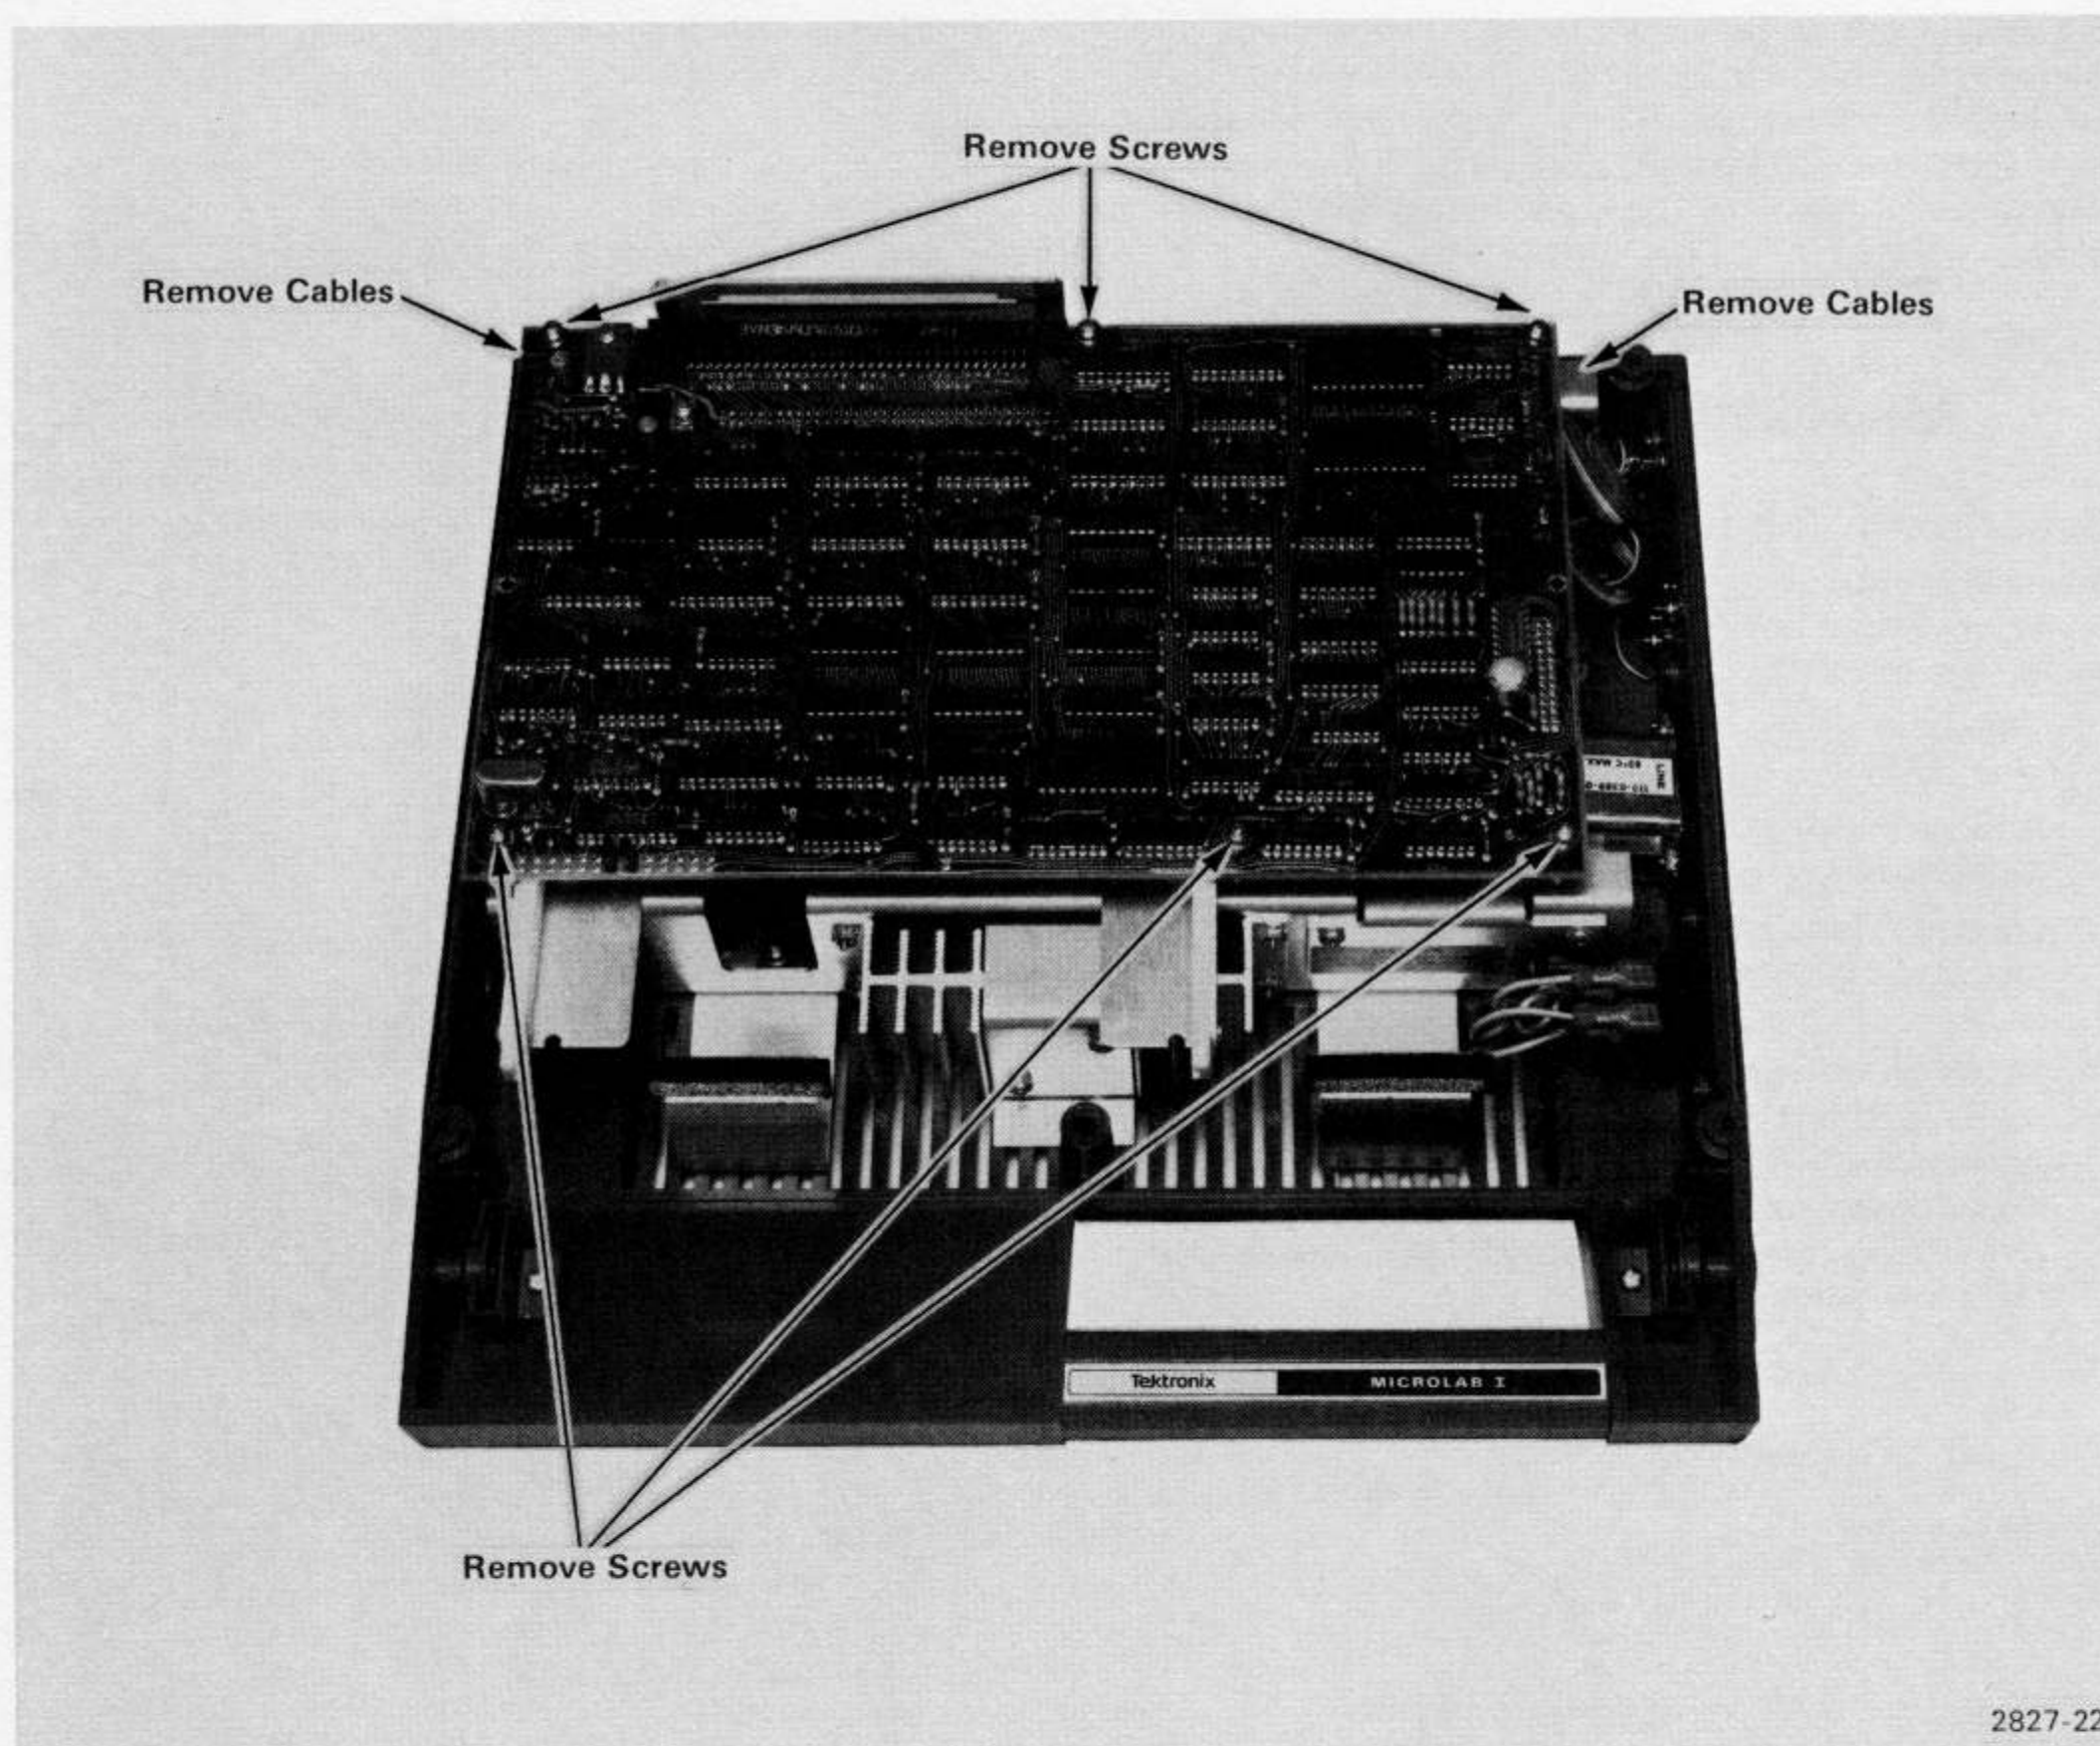

Fig. 6-2. Main Interconnect Board Cable Locations.
1. Remove the cables connected to the Main Interconnect board at the locations shown in Fig. 6-2.
2. Remove the six screws shown in Fig. 6-2.